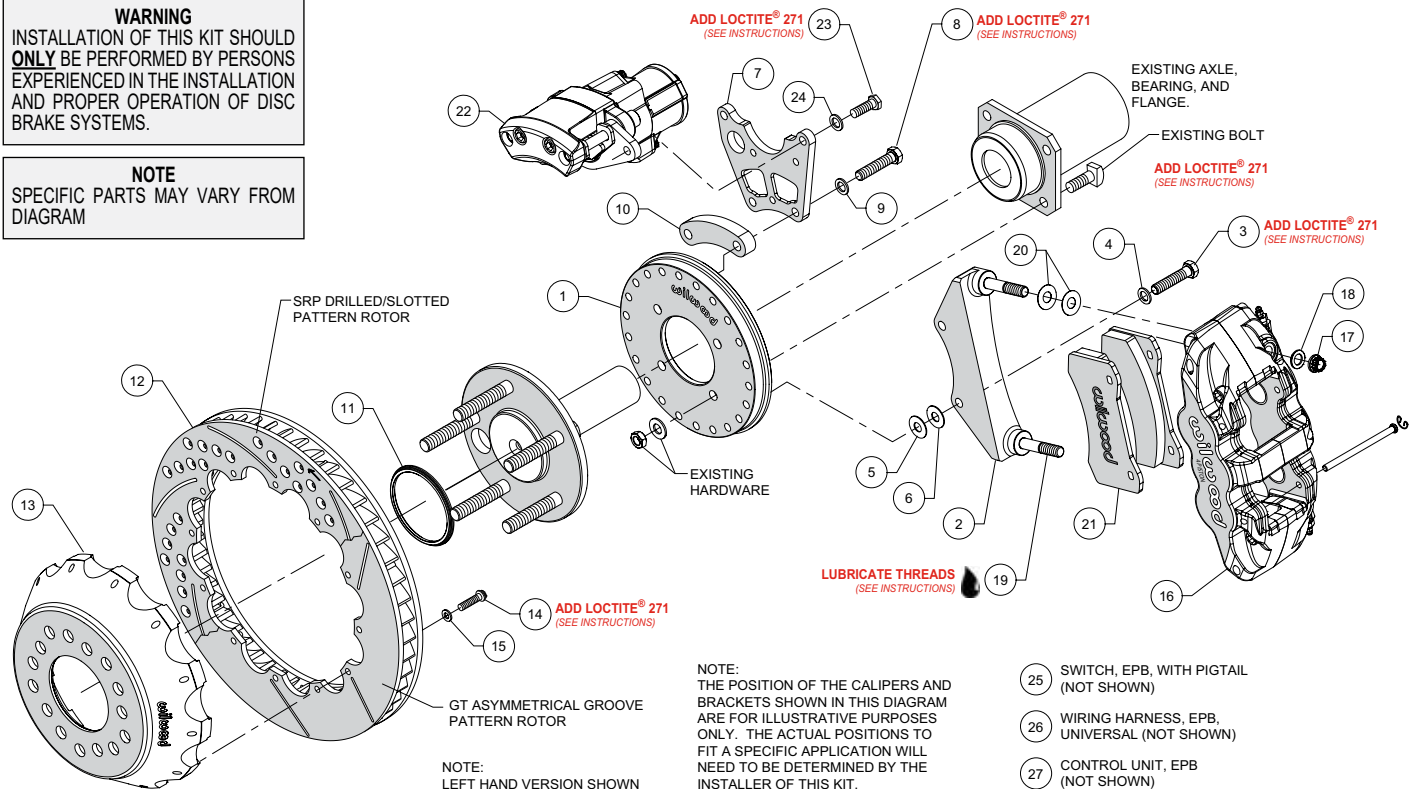
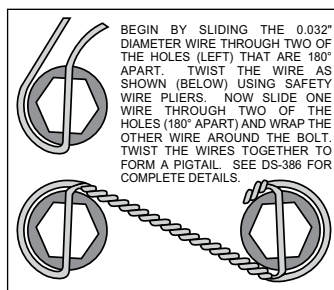

Figure 1. Typical Installation Configuration
Figure 4. Safety Wire Diagram
NOTE: Numbers in parenthesis refer to the parts list and Figure 1 on the preceding pages.
- Orient the backing plate (1) as shown in Figure 1 and Photo 1, and mount it to the axle housing flange using the Original Equipment Manufacturer (OEM) bolts, washers and nuts, Figure 1. Ensure the backing plate fits flush against the axle housing flange. Apply red *Loctite*® 271 to the OEM bolt threads and torque to OEM specifications.
•Start by determining the best location for the service caliper (16). This caliper is usually mounted in the 3:00 or 9:00 o'clock position, but may be rotated up or down approximately 45 degrees and still allow for proper bleeding, Photo 2. Orient the service caliper bracket (2) as shown in Figure 1 and Photo 3, and install to the backing plate (1) in the desired location using bolts (3) and washers (4). Temporarily tighten bolts. Next, mount the service caliper onto the bracket. Lubricate the caliper mounting studs (19) with lightweight oil. Mount the service caliper using lock nuts (17) and washers (18), Figure 1. Temporarily tighten the lock nuts. Check that the caliper (including inlet fitting and hose) has sufficient clearance to all surrounding components through the full suspension travel. Relocate the caliper/bracket on the backing plate as needed to ensure proper clearance is achieved.
•Determine the best location for the EPB caliper (22). **NOTE:** The EPB caliper motor extends farther inboard than the service caliper and therefore needs additional consideration when determining a mounting location with sufficient clearance. In the example application shown in Photo 4, the EPB caliper has sufficient inboard clearance to the leaf spring. However, if the EPB caliper were mounted closer to the 12:00 o'clock position, the inner body of the vehicle would hit the caliper during full compression of the suspension.
•Orient the EPB caliper bracket (7) as shown in Figure 1 and Photo 5, and install to the backing plate (1) in the desired location using bolts (8), washers (9), and spacer (10). Temporarily tighten bolts. **NOTE:** The EPB bracket is reversible. In one direction the bracket will position the EPB caliper closer to the service caliper, and vice versa if reversing the bracket. Next, mount the EPB caliper (22) to the bracket using bolts (23) and washers (24). Temporarily tighten bolts. **NOTE:** EPB calipers are Left and Right handed, however they can be used on either
- Once the caliper positions have been determined, remove both the service (16) and EPB (22) calipers, leaving both brackets in place on the backing plate. For the EPB bracket, remove the bolts one at a time, apply red Loctite® 271 to the threads, and torque to 35 ft-lb. The service caliper bracket will be final installed after shimming is determined.
- Orient the rotor (12) and the hat (13) as shown in Figure 1 and Photo 6. Attach rotor to hat using bolts (14) and washers (15). Apply red *Loctite*® 271 to the bolt threads and torque to 155 in-lb using a criss-cross pattern. For an added measure of security, the bolts may be safety wired using standard 0.032 inch diameter stainless steel safety wire as shown in Figure 4. Please refer to Wilwood's data sheet DS-386 (available at www.wilwood.com/Pdf/DataSheets/ds386.pdf) for complete safety wire installation instructions.
- Slide the rotor registration adapter (11) onto the register on the axle flange with the smaller O.D. facing toward the rotor/hat (12 and 13), Photo 7.
- Initially place two .030" thick shims (20) on each stud of the service caliper bracket (2), as shown in Figure 1 and Photo 8. Mount the caliper onto the bracket using lock nuts (17) and washers (18), Figure 1. Temporarily tighten the lock nuts and view the rotor through the top opening of the caliper. The rotor should be centered in the caliper, Photo 9. If not, adjust by adding or subtracting shims (5 and/or 6) between the service caliper bracket (2) and the backing plate (1). Always use the same amount of shims on each of the two mounting bolts. Once the caliper alignment is correct, remove the bracket mounting bolts (3) one at a time, apply red *Loctite*® 271 to the threads, and torque bolts to 35 ft-lb.
- Remove the service caliper (16), then remove the two pad retaining pins from the caliper by carefully popping out the pin retaining clips and sliding out the pins. Insert the brake pads (21) into the caliper from the bottom, Figure 1 and Photo 10. With the friction material facing the rotor, secure the brake pads in place with the pad retaining pins and clips, Photo 11. Reinstall the caliper onto the mounting bracket and temporarily tighten the lock nuts. Check that the top of the brake pad is flush with the outside diameter of the rotor, Photo 12. If not, adjust by adding or subtracting shims (20) between the caliper and the bracket. After the caliper pad height is set, torque the caliper lock nuts (17) to 47 ft-lb.
- Mount the EPB caliper (22) onto the caliper mounting bracket (7) using bolts (23) and washers (24), Figure 1. Apply red *Loctite*® 271 to bolt threads, and torque to 30 ft-lb.
• **NOTE:** The service caliper (16) in this brake kit utilizes a 1/8-27 NPT pipe thread inlet. OEM rubber brake hoses generally cannot be adapted to Wilwood calipers. The preferred method is to use steel adapter fittings at the caliper, either straight, 45 or 90 degree (use PTFE tape on pipe threads of adapter fitting for proper sealing to caliper) and enough steel braided line to allow for full suspension travel. **Carefully route hoses to prevent contact with moving suspension, brake or wheel components.** **NOTE:** Wilwood hose kits are designed for use in many different vehicle applications and it is the installer's responsibility to properly route and ensure adequate clearance and retention for brake hose components. Wilwood offers universal brake flex line hose kits, domestic (3/8-24 IF) chassis fittings, order: